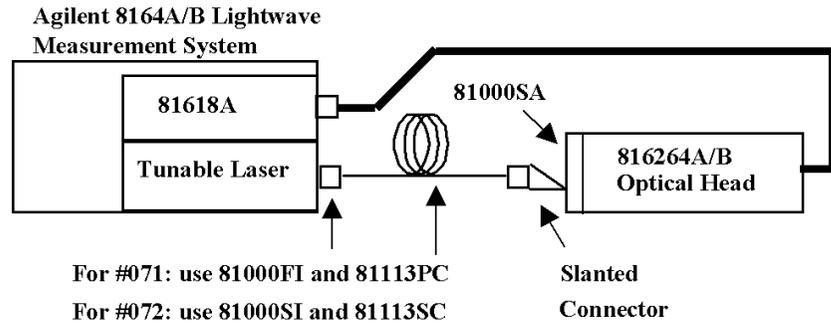

Figure 33 Test Setup for Power Stability Tests
- 1 Set up the equipment as shown in Figure 33.